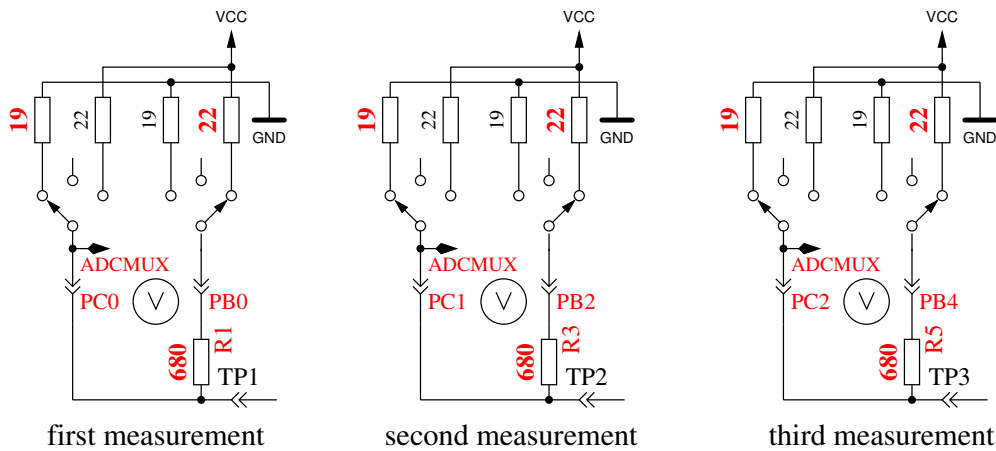

Figure 4.28: Measurement of internal resistance of Port C switched to GND
5. **This step tests the capability of GND (-) connected 470kΩ resistors (H) to pull the test pins to GND.** Row 1 shows the text “RH-”. Row 2 should display zero for all three pins.
6. **This step tests the capability of VCC (+) connected 470kΩ resistors (H) to pull the test pins to VCC (+).** Row 1 shows the text “RH+”. The best value for this three measurements is 5001. Great differences from the best value for test 5 and 6 are errors such as isolation problem, flux material or damaged port.
7. **Measuring of internal resistance of pin output switched to the GND signal.** The text in the 1st LCD row is “Ri.Lo = (mV)”. In the second row of the LCD three voltages were displayed. The internal resistance of the port C outputs switched to GND (-) are measured with the current of to VCC (+) switched 680Ω resistors, see Figure 4.28. Only the three pins of the ADC port are measured, the resistor port B (PB0, PB2 and PB4) can not be measured without hardware modification. It is assumed that the port resistance of the different ports are nearly identical. To get the resistor values, you must divide the displayed mV values by about 7 (see test 8).